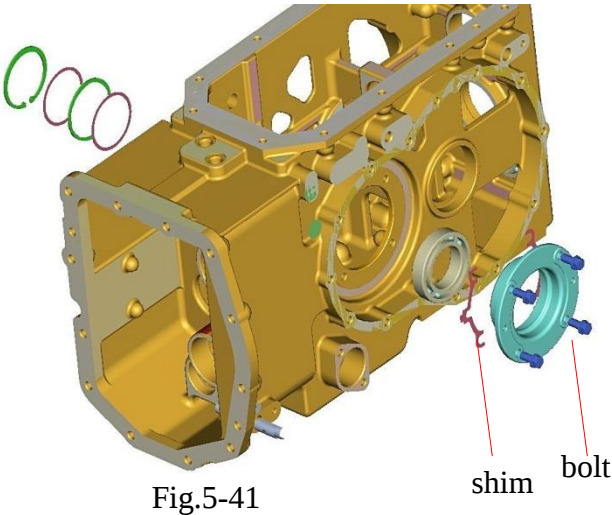

Fig.5-41
b.Dismount diff-case (RH) and diff-case Metal (LH) by installing push bolt as shown in Fig.5-41